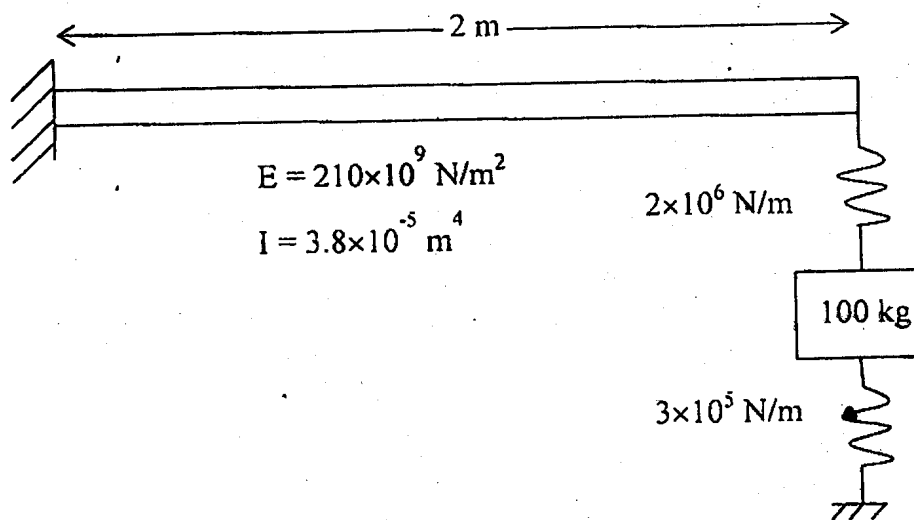

Figure 5
19. Determine the equivalent stiffness of the system shown in Figure 5 :